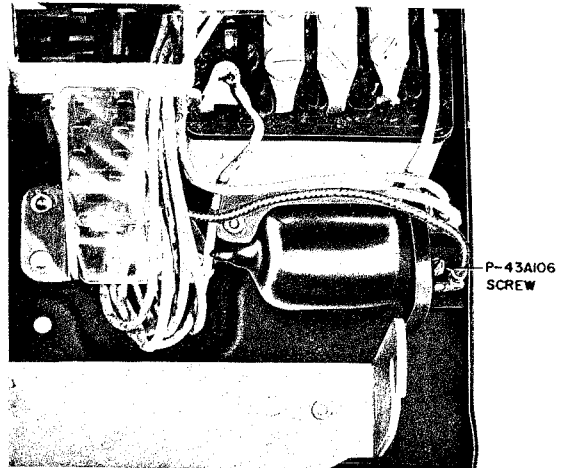

Fig. 23 — 500-Type Set Showing Tube Mounting
- Tube assembly is held to base of set with single screw (Fig. 23).